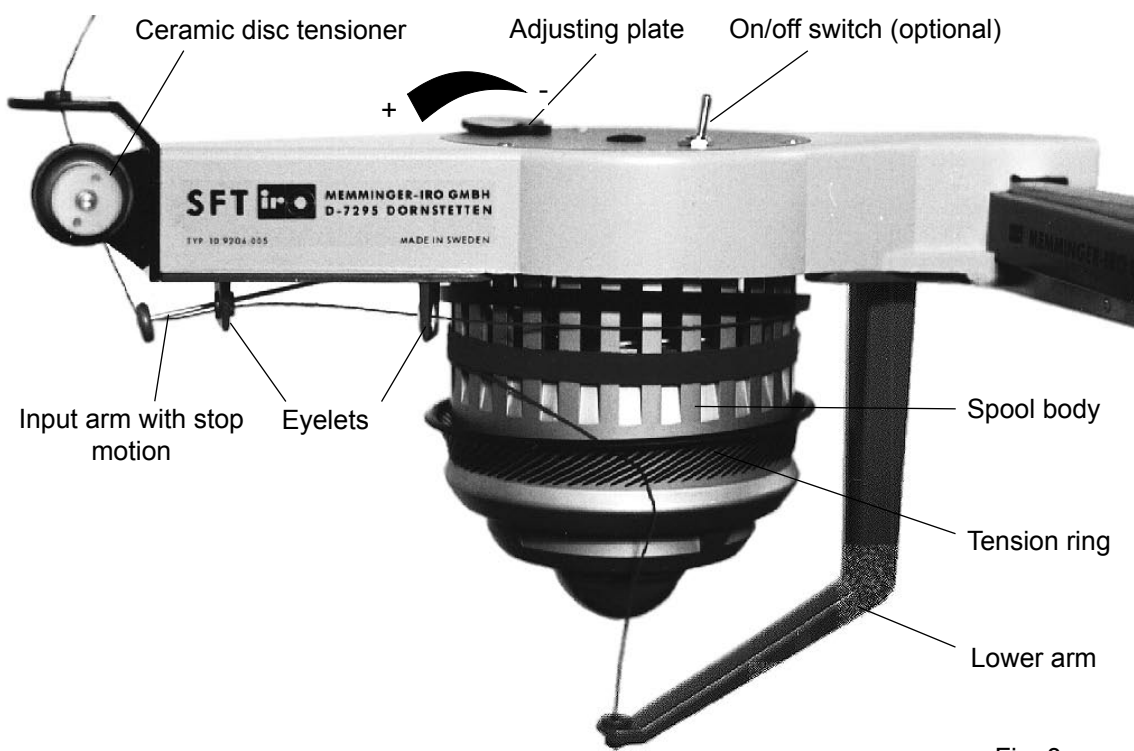

Fig. 8
When first starting the machine up, proceed as follows (see Fig.8):
- Set the adjusting plate to the maximum storage volume (to „+“ Fig.8).